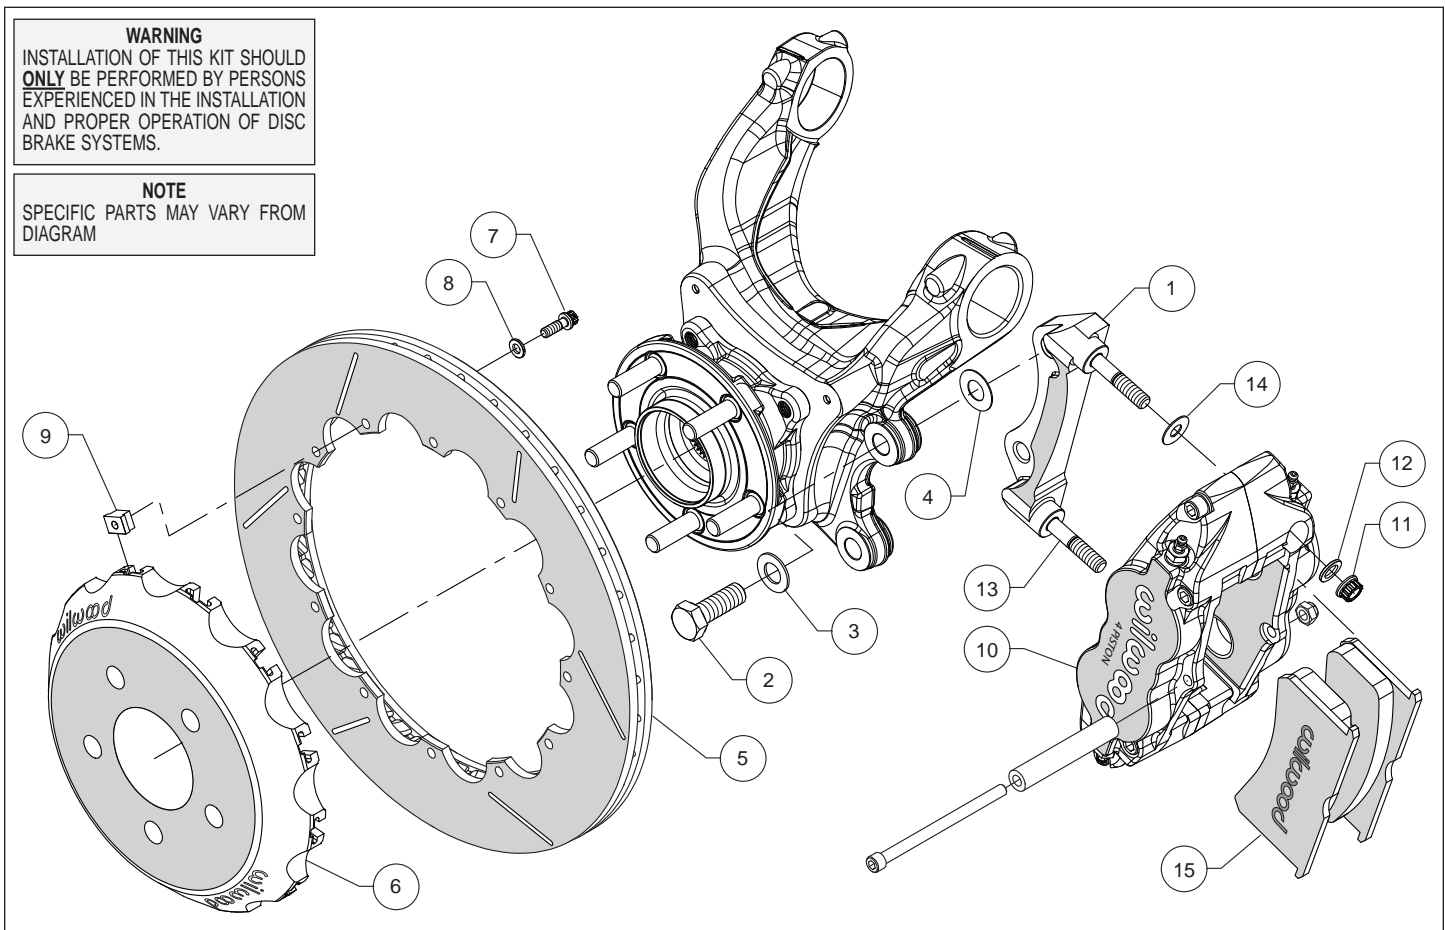
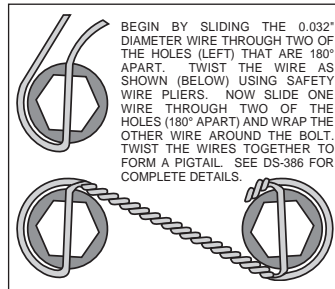

Figure 1. Typical Installation Configuration
Figure 3. Safety Wire Diagram
**Assembly Instructions** (numbers in parenthesis refer to the parts list and Figure 1 on the preceding pages):
- The caliper mount bracket (1) should initially be installed with clean, dry threads on the mounting bolts. Orient the bracket as shown in Figure 1, and Photo 1, and install using bolts (2) and washers (3). Initially place one .029" thick shim (4) on each bolt between the bracket and upright, Figure 1. Temporarily tighten the mounting bolts. **NOTE: The bracket must fit squarely against the mount bosses on the upright.** Inspect for interference from casting irregularities, machining ridges, burrs, etc. Later, after the caliper alignment has been checked, the mount bolts will be secured using red *Loctite*® 271.
- Orient the rotor (5) and the hat (6) as shown in Figure 1 and Photo 2. Attach rotor to hat using bolts (7), washers (8), and t-nuts (9). Follow additional instructions included with the bolt kit. Using an alternating sequence, apply red *Loctite*® 271 to the threads, and torque to 120 **in-lbs**. Safety wire bolts using standard 0.032 inch diameter stainless steel safety wire as shown in Figure 3. Please refer to Wilwood's data sheet DS-386 (available at [www.wilwood.com/Pdf/DataSheets/ds386.pdf](http://www.wilwood.com/Pdf/DataSheets/ds386.pdf)) for complete safety wire installation instructions.
- Lubricate the caliper mounting studs (13) with lightweight oil. Initially place one .035" thick shim (14) on each stud as shown in Figure 1 and Photo 3. Mount the caliper (10) onto the bracket (1) using lock nuts (11) and washers (12), Figure 1. Temporarily tighten the lock nuts and view the rotor through the top opening of the caliper. The rotor should be centered in the caliper, Photo 4. If not, adjust by adding or subtracting shims (4) between the bracket and the upright. Once the caliper alignment is correct, remove the bracket mounting bolts one at a time, apply red *Loctite*® 271 to the threads, and torque to 77 ft-lbs..